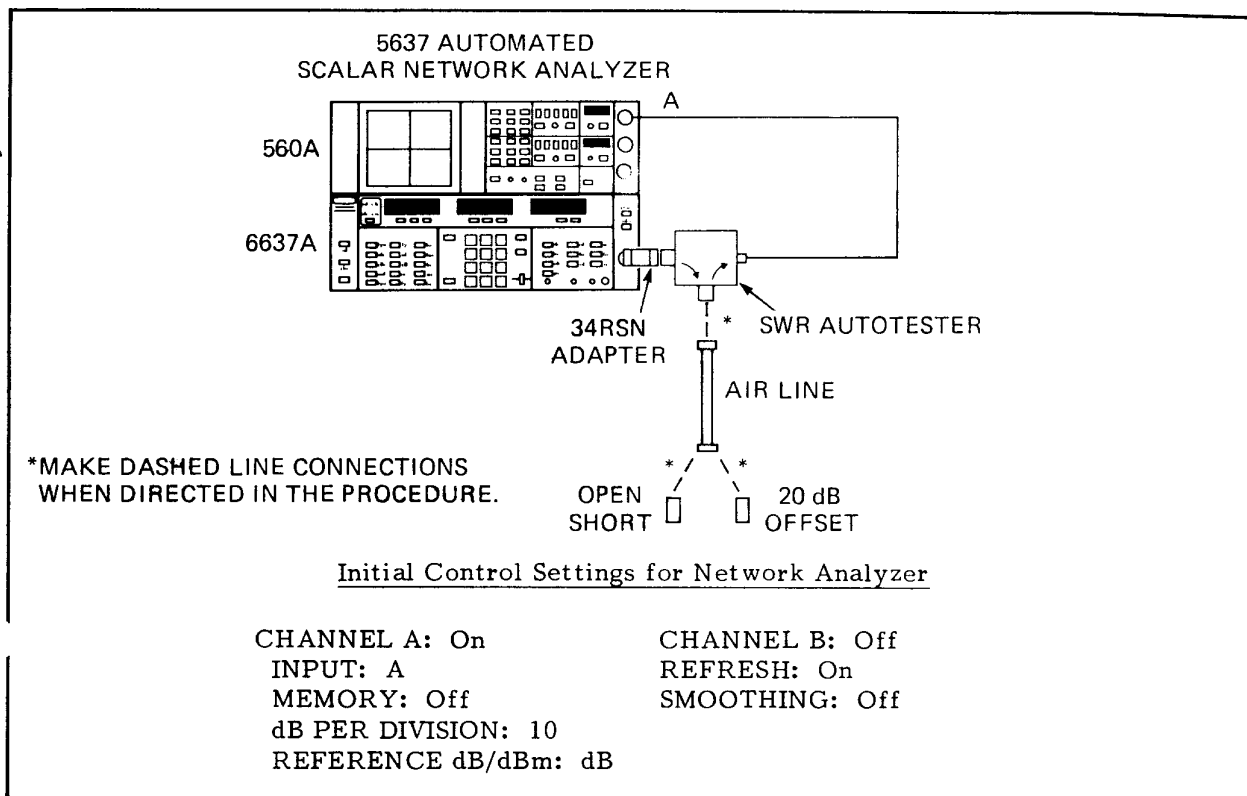

Figure 4-12. Test Setup for Measuring Directivity Above 2 GHz
- a. Press the POWER pushbutton on the 560A and 6637A. Set the 560A controls as shown in Figure 4-12.
1. Connect the test equipment as shown in Figure 4-12.